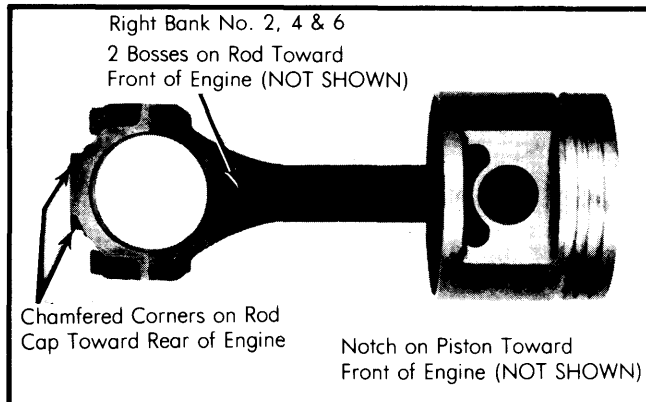
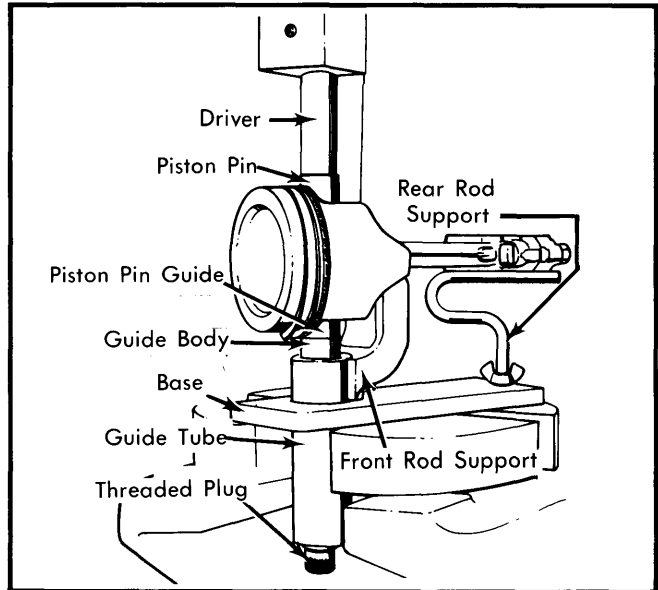

Fig. 6 Right Bank Piston & Rod Assembly
Fig. 8 Piston Pin Removal & Installation
guides and install rod cap and bearing. Tighten rod cap nuts. See Figs. 6 and 7.
- 1) Piston pin is selective press fit in connecting rod. Using a suitable piston pin pressing tool set and a press, remove piston pin and separate piston and rod. See Fig. 8.
- 3) Place connecting rod in correct position for bank in which piston and rod are being installed. See Figs. 6 and 7. Lubricate piston pin and press into piston and rod using tool set and press used during removal. See Fig. 8.